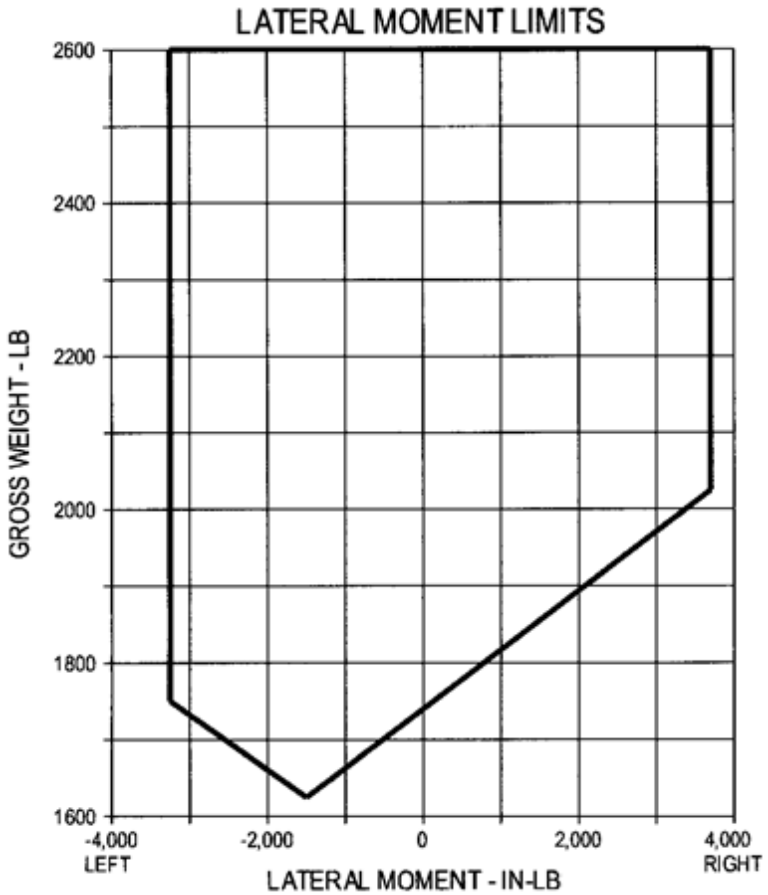

Figure 6-2. Lateral Offset Moment Envelope
1. It is the responsibility of the helicopter pilot to ensure that the helicopter is loaded properly. Using the running basic weight and moment from the Weight and Balance form (Figure 6-7) and the Loading Chart (Figure 6-4), the pilot can obtain the total weight and moment for various loading conditions. The pilot should first calculate the total weight and moment for zero usable fuel, as this will show the c.g. shift with fuel burn-off. If the c.g. is within limits, add the planned fuel load and compute the c.g. If the c.g. is within limits, the last item to check is the lateral offset moment using the stations in Paragraph 6-2, Step 2 and Figure 6-2.
- a. Plot 2350 lb and +1610 in-lb on Figure 6-2 to ensure moment is in approved area.